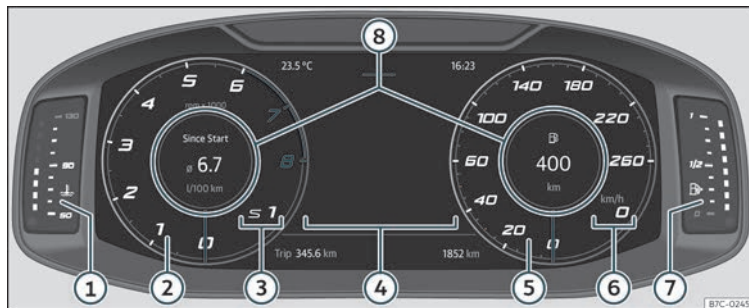

Fig. 57 Digital Cockpit on the instrument panel (classic view).
In the **Classic** and **Navigation** views it is possible to customise the information displayed under **Information profiles**»» Fig. 57 ⑧.
The revolutions per minute and speedometer needles appear along the entire length »» Fig. 57.